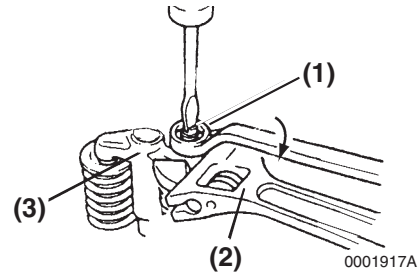

Figure 6-78
4. Loosen the valve bridge adjusting screw lock nut (Figure 6-78, (1)) while holding the bridge (Figure 6-78, (3)) with a wrench (Figure 6-78, (2)).